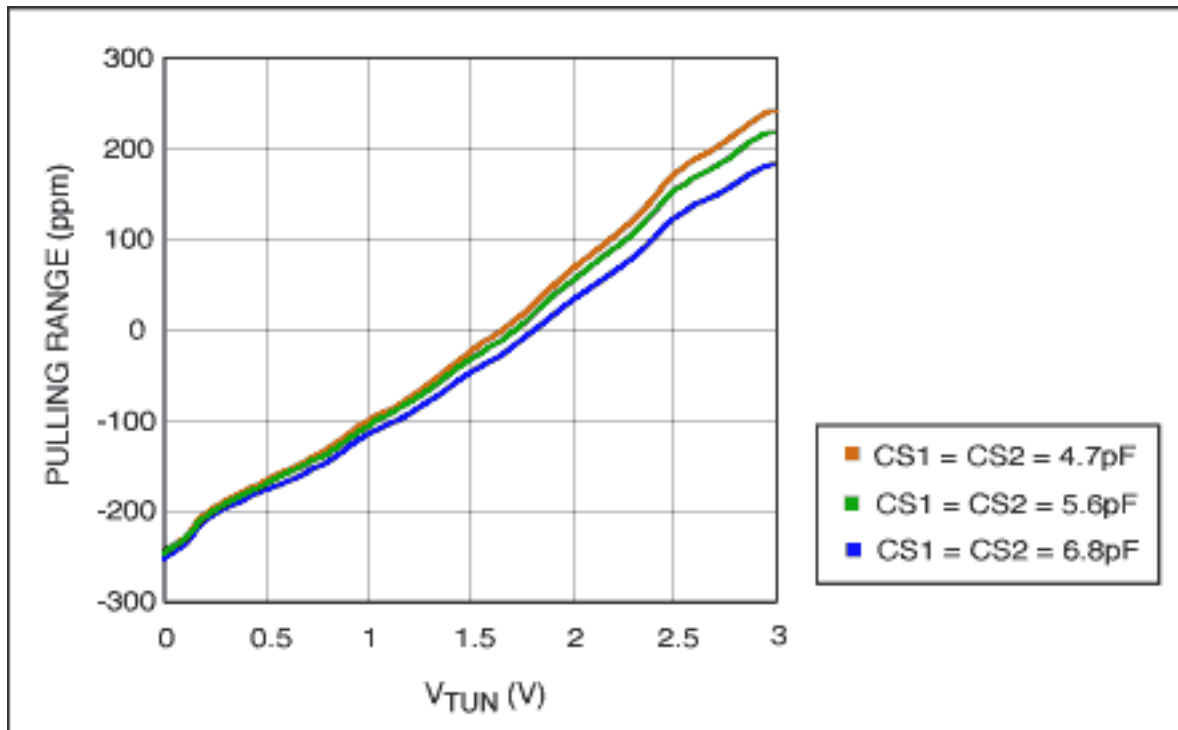
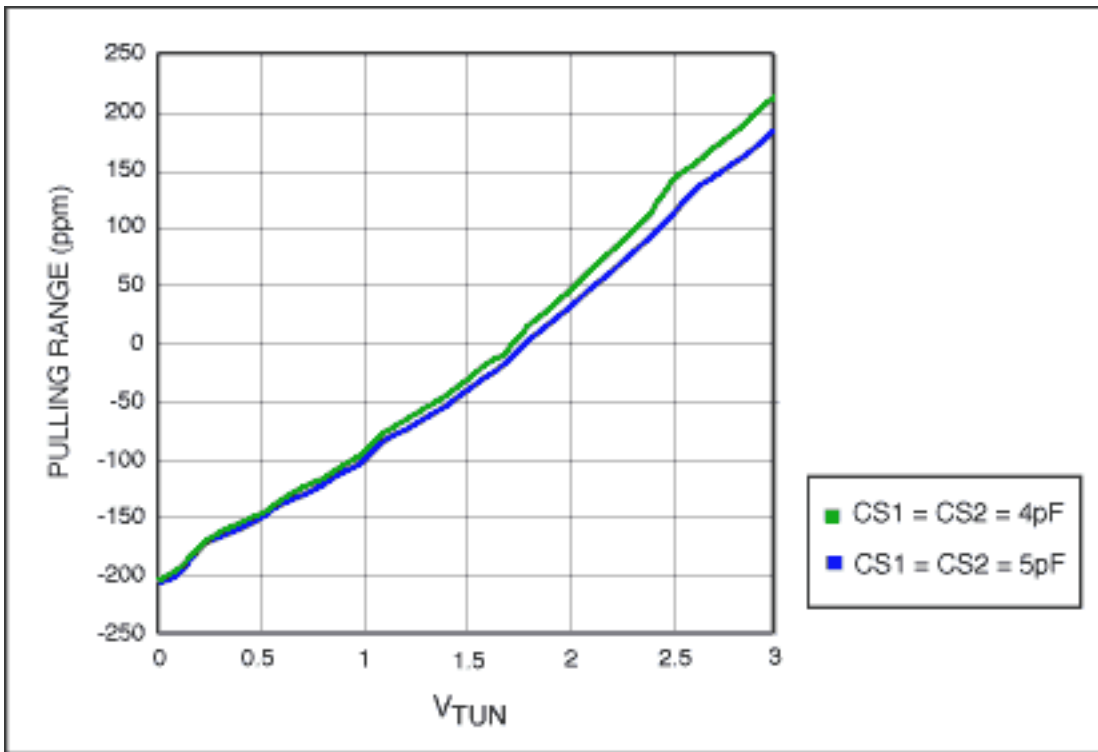

Figure 3.
Figure 4.
The quality and characteristics of a VCXO CLK generator can be affected by the selection of crystals and the PCB layout. In selection of crystal, beside the frequency, package, accuracy, and operation temperature range, for a VCXO application, users must pay attention on the equivalent series resistance and loading capacitance. The series resistance provides a power consumption measure of the crystal. The less the resistance value is, the easier the oscillator starts up. The loading capacitance is an important parameter for a crystal. First of all, it determines the resonating frequency of the crystal. Normally, the marked frequency of a crystal implies the resonating frequency of the crystal after connected the specified loading capacitance in parallel with it. It should be pointed out that this marked frequency is equal to the value obtained from Equation (1) when CL equals to the specified load capacitance, but this is not the value from $1/(2\pi\sqrt{L_1C_1})$. Therefore, it is clear that the tuning range of a VCXO is closely related to the value of CL. For a small value of load capacitance, the VCXO tuning range is limited in upper side; likewise a large value of the capacitance reduces the tuning range in lower side. The right value of loading capacitance to use is depending on the character of the VCXO. For instance, in MAX9485 design to balance the tuning range, the center of the tuning curve, and the ease of board design, we have chosen a 27MHz crystal with a 14pf load capacitance from Ecliptek (ECX-5527-27) [2]. With such a crystal, MAX9485 can provide a pulling range of ± 200 ppm, see **Figure 3**. It should be mentioned that the pulling range of a crystal also varies with the package. Usually, a metal canned package has larger pulling range than surface mounted device (SMD). However, recently DAISHINKU Corp [5] has made a new SMD crystal that can provide a similar pulling range as a metal canned crystal. We have tested the SMD crystal (DSX530GA) and found out that the tuning range is about ± 200 ppm with two 4pf shunt capacitors, see **Figure 4**.